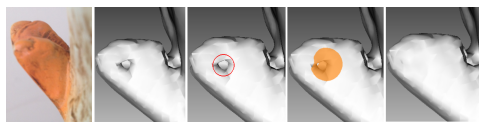

Figure 8.19.: *Defeature brush* in action.
5. While still holding down **Ctrl**, adjust the spot size (see Figure 8.19., 4) or circle diameter (see Figure 8.19., 3) using **Scroll wheel** or the **[** and **]** keys. Their size should match the size of feature you want to remove.